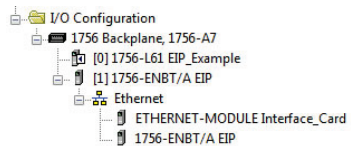

Figure 55: I/O Configuration Tree
- 6) After adding the I/O Module to the configuration, the full I/O Configuration tree should appear similar to Figure 55.